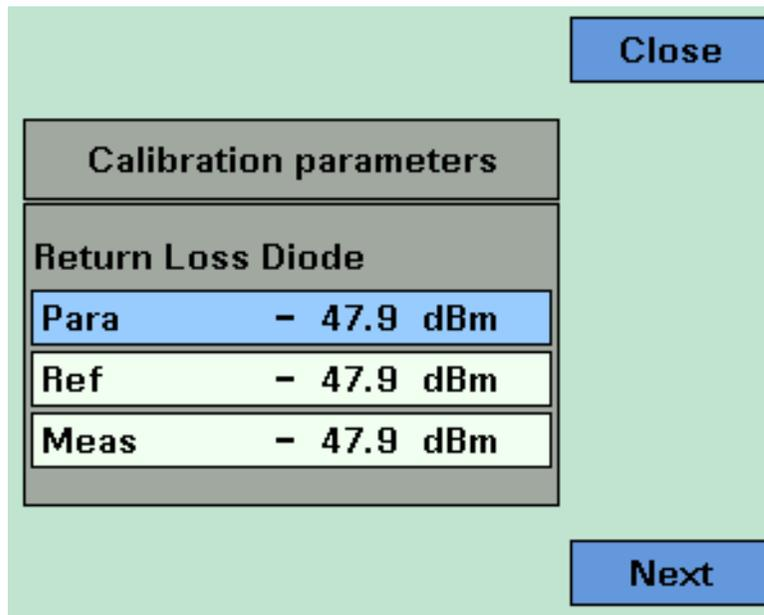

Figure 108 The Calibration Parameters Screens - Return Loss Diode
**1** Press [Menu]. Move to the <Show calibration> menu item. The *Calibration parameters* screen for the *Return Loss Diode* appears, as displayed in Figure 108 . This screen shows current value for the following quantities: